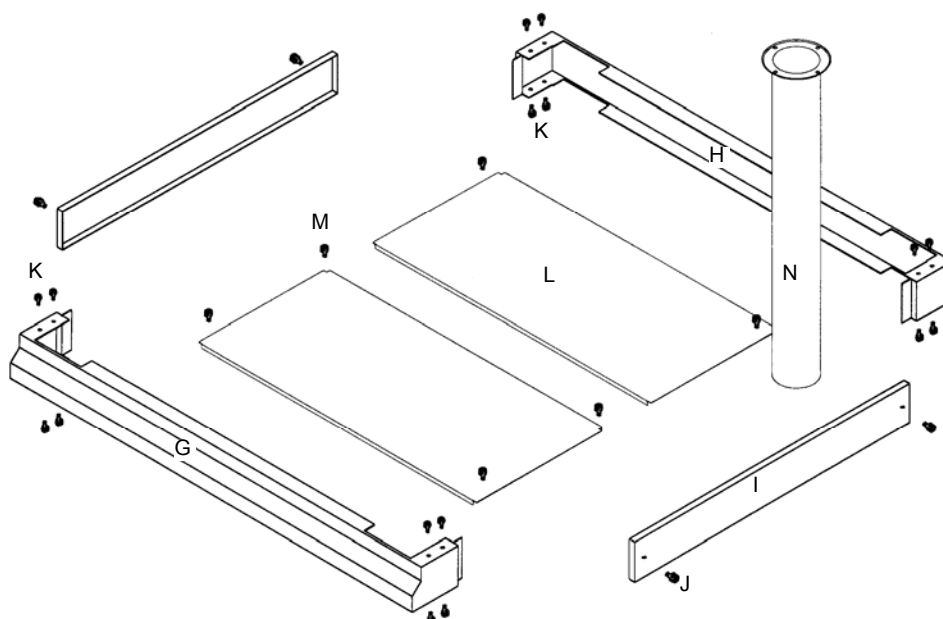

Figure A.6
| | Washer - $\frac{1}{4}$ " flat | 12 | Figure A.6 |
- 9) Assemble loosely the front (G), back (H) and sides (I), with one screw (J) at each corner (Figure A.6), in from the sides.
- 10) Place stacking assembly on top of the lower oven and loosely attach, using 2 screws (K) in each corner of the unit (at front and back up from the sides).